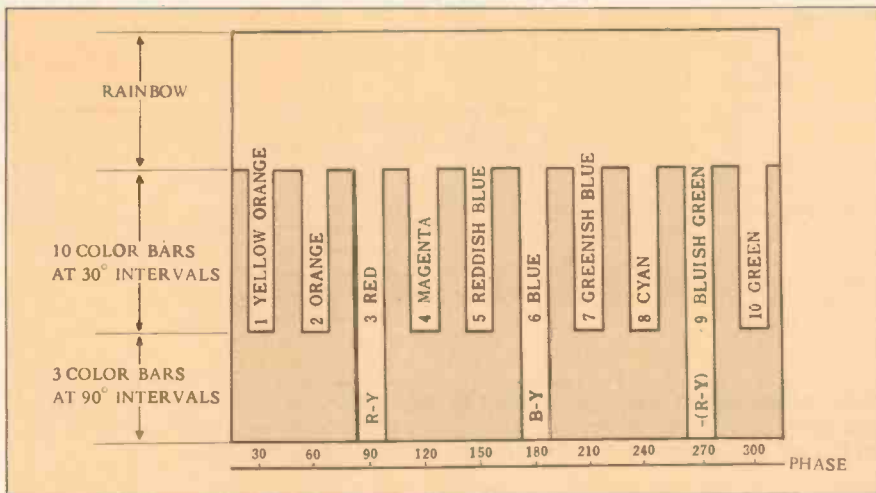
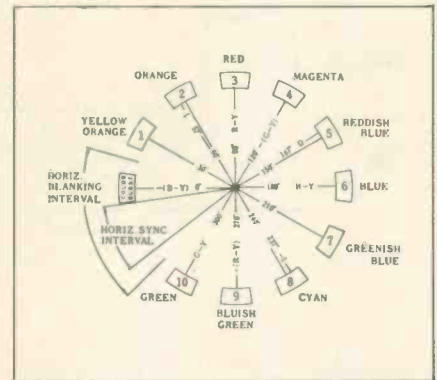

Fig. 1—Three-part color pattern produced by Model LCG-395.
Fig. 2—Vector diagram which illustrates phase relationships of bars in color pattern produced by Model LCG-395.
**Color bar pattern**—The three-part color bar pattern produced by the Model LCG-395 is shown in Fig. 1. It consists of a nonkeyed rainbow pattern across the top third of the screen, ten conventional keyed rainbow color bars spaced at 30-degree intervals across the center third of the screen, and three color bars spaced at 90-degree intervals across the bottom two-thirds of the screen. Fig. 2 illustrates the phase relationships of the keyed rainbow color bars.